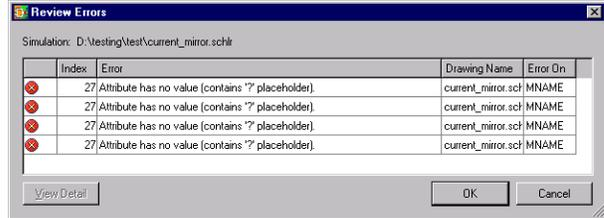

Figure 7. Review Errors Dialog.
6. Now perform a check drawing – the error dialog shows in Figure 7